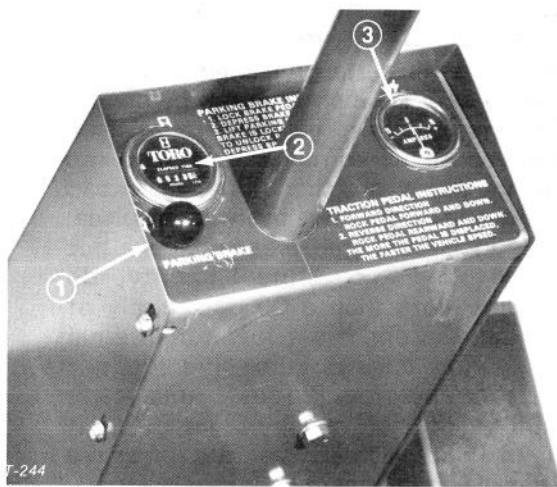
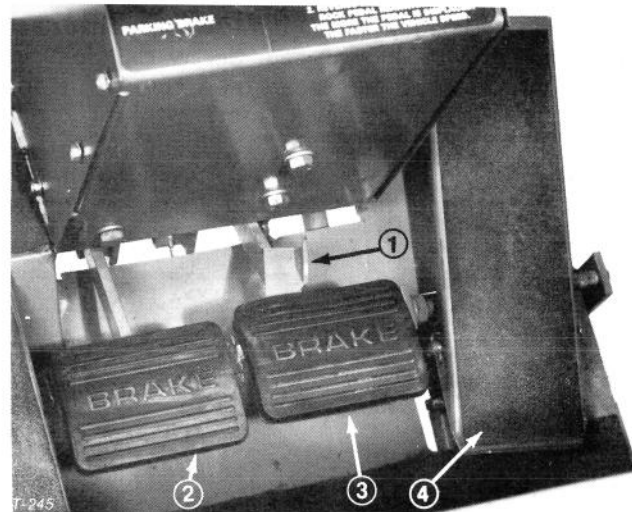

Figure 12
Figure 13
**Parking Brake** (Fig. 12) — Whenever the engine is shut off, the parking brake must be engaged to prevent accidental movement of the machine. To engage the parking brake, push lock arm (Fig. 13) on right brake pedal between the left brake and its lock tab. Next, push down fully on both pedals and pull parking brake knob out; then release the pedals. To release parking brake, depress both pedals until parking brake knob retracts. Before starting the engine, however, lock arm may be disengaged from left brake pedal so both pedals work independently with each front wheel.
**Hour Meter** (Fig. 12) — The hourmeter registers accumulated hours of engine operation. Use the hourmeter to determine intervals for service maintenance and lubrication.
**Ammeter** (Fig. 12) — Ammeter shows charge rate of the battery by the alternator. When engine is running, there must always be a slight charge, unless engine is idling slowly. Needle will point to 0 when battery is fully charged. By contrast, alternator is not charging the battery when needle points to (—) negative side of ammeter, and if this happens, repair the charging system to prevent discharge of the battery.
**Service Brakes** (Fig. 13) — The left and right brake pedals are connected to the left and right front wheels. Since both brakes work independently of each other, the brakes can be used to turn sharply or to increase traction if one wheel tends to slip while operating on certain slope conditions. However, wet grass or soft turf could be damaged when brakes are used to turn sharply. To make a "quick-stop", depress both brake pedals together.
**Traction Pedal** (Fig. 13) — Traction pedal has two functions: one is to make the machine move forward, the other is to make it move rearward. Using